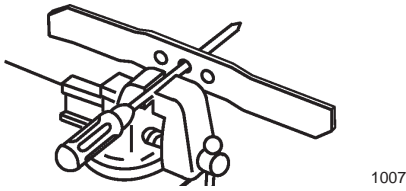

Figure 33
1. Check the balance of the blade by placing the center hole of the blade over a nail or screwdriver shank clamped horizontally in a vise (Fig. 33).